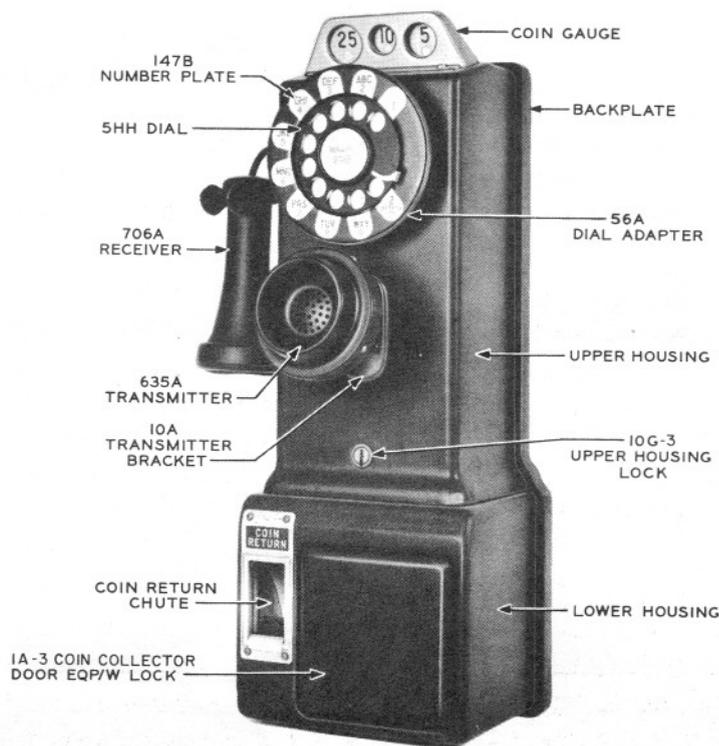

Fig. 7 — Transmitter-Receiver Type
4.03 The 5-type dial may be used for replacement of 5-type dials if consistent with zoning practices (see Fig. 7). The apparatus and parts associated with a 5-type dial are not interchangeable with those used with a 6-type dial. A P-14A544 coin deflector may be used with the 5-type dial and its associated 56A dial adapter. This deflector cannot be used on coin collectors equipped with washer-reject mechanisms. The 5-type dial and 56A dial adapter are mounted in the dial cup by three P-240420 screws.